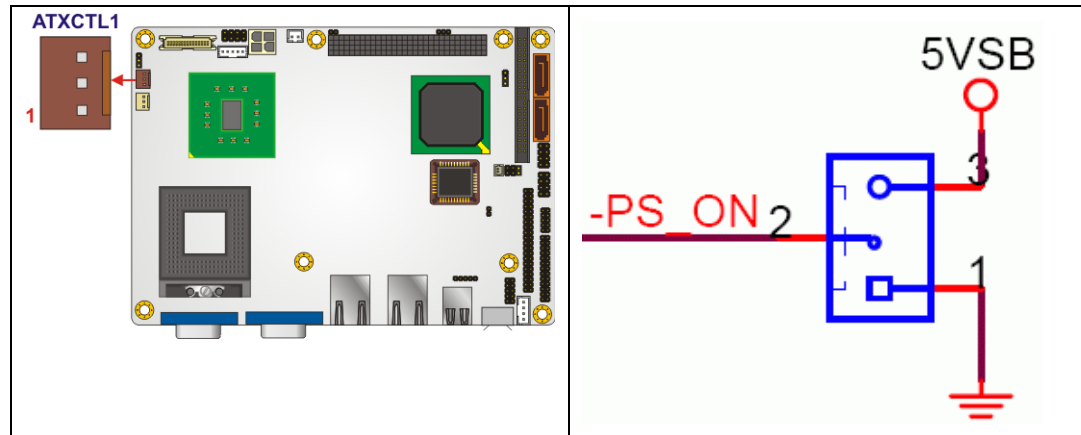

Figure 4-5: ATX Power Supply Enable Connector Location
- CN Location:** See Figure 4-5